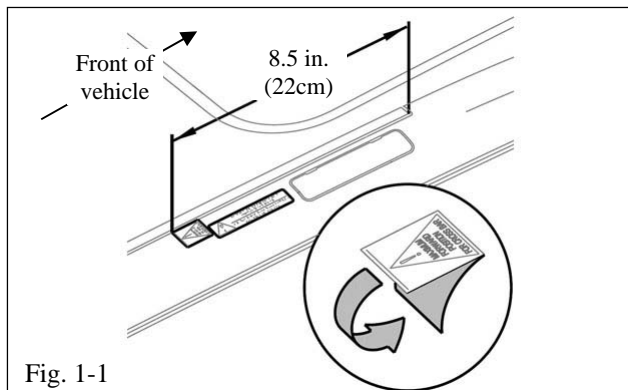

Fig. 1-1
-  (a) Use a ruler to measure 8.5 in. (22cm) back from the front of the side rail bracket (Fig. 1-1).
- (c) Position the label so that the triangle is pointing to the **rear** of the vehicle and the line on the label is at the 8.5 in. (22cm) measurement (Fig. 1-1).
- (e) Position the label between the "Forward Limit" label and the front rail cap (Fig. 1-1).